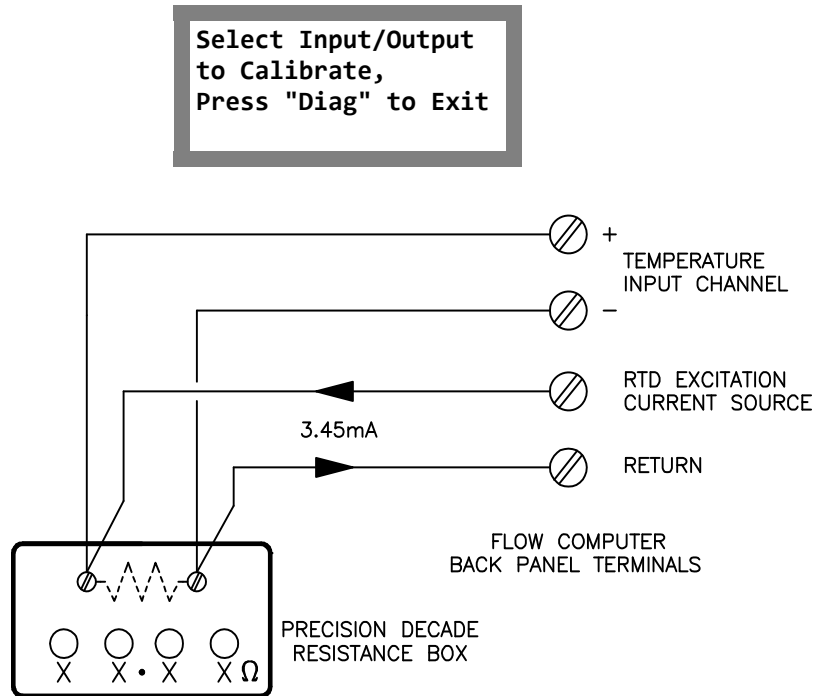

Figure 98. Figure Showing Calibration of RTD Input Channel
- Disconnect the RTD probe and connect precision decade resistance box. capable of inputting 30.00 to 150.00 Ohms as shown in Figure 98.